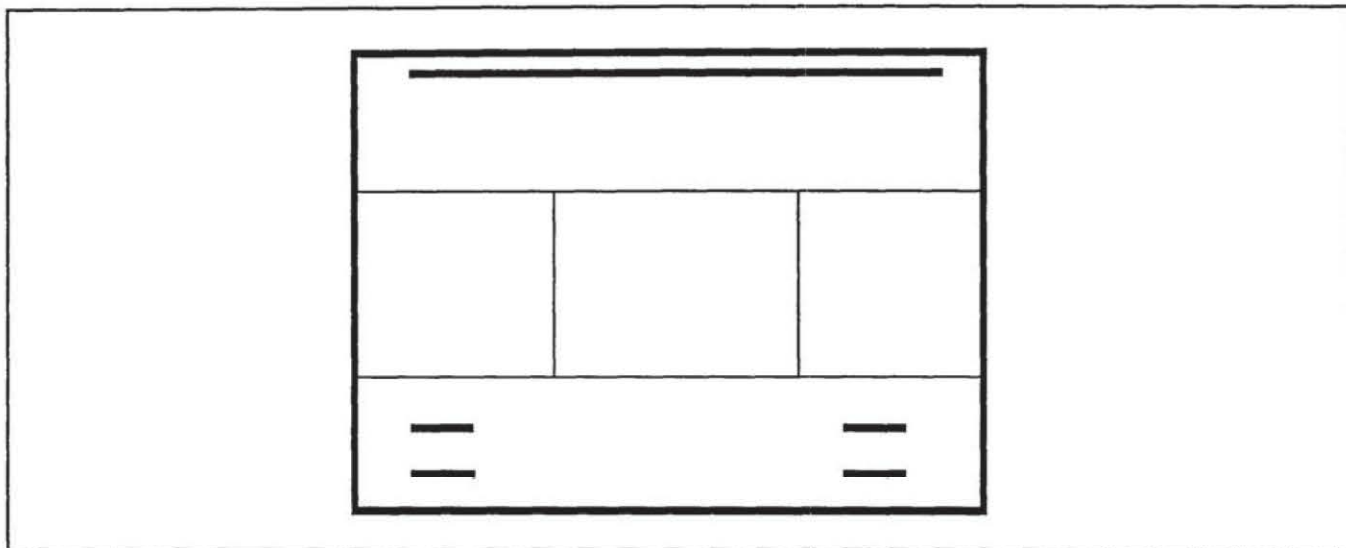
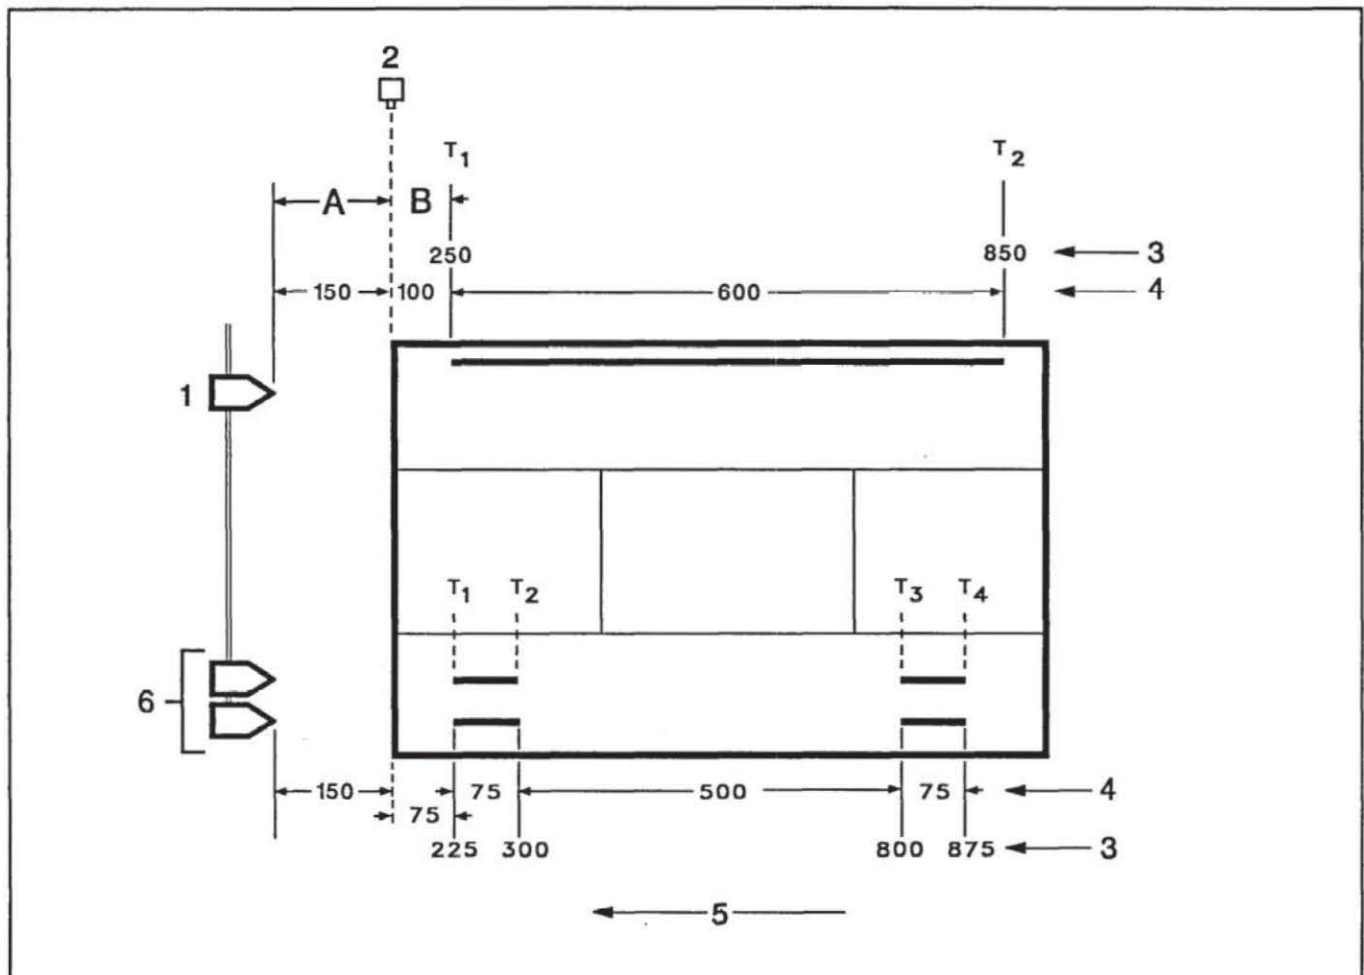

Figure 4.5 - Example 1 pattern
Figure 4.6 - Measuring delays/durations for example 1
It may be helpful to draw a simple diagram of the pattern you want (like the one shown in Figure 4.5). Leave sufficient space on your diagram for recording trigger to gun and bead measurements. Measurements should be made in millimeters or inches.
After you draw your pattern (as shown in Figure 4.5), you will need to measure the length of each delay and duration of your pattern. Write the measurements on the drawing as shown in Figure 4.6.
- Two transitions are needed for the gun 1 bead shown in the Figure 4.6: one delay and one duration. The values are written on the pattern log for channel 1.